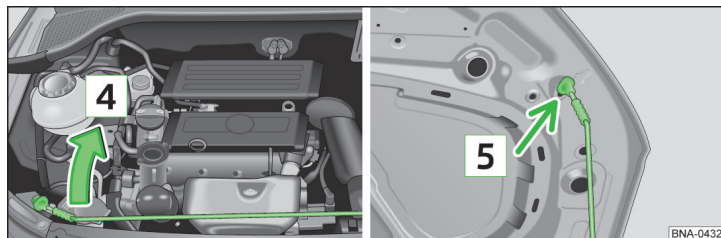

Fig. 76 Securing the bonnet
- › Remove the bonnet support in the direction of arrow **4** from the holder » fig. 76.